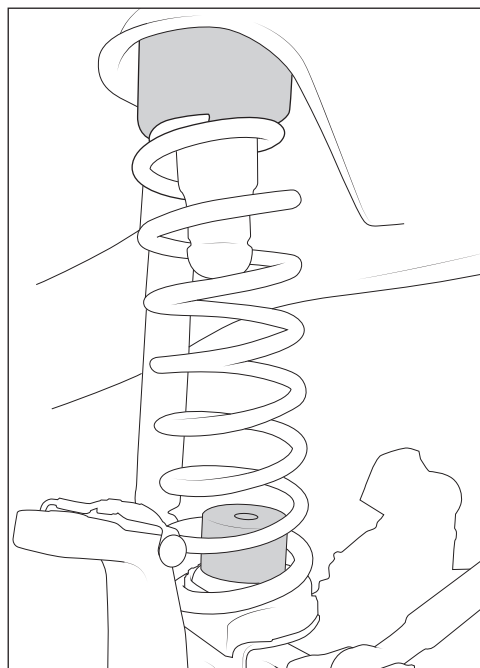

Figure 17
- Install front spring spacers with molded posts pointing upward. Place bumpstop spacer inside spring and install both together (be sure counter-bored hole is on top). With AEV logo facing outward, make sure both posts on the spring spacer engage the holes in the frame. Make sure spring is properly clocked into the lower spring mount and raise axle slightly to hold the assembly in place (fig. 17).